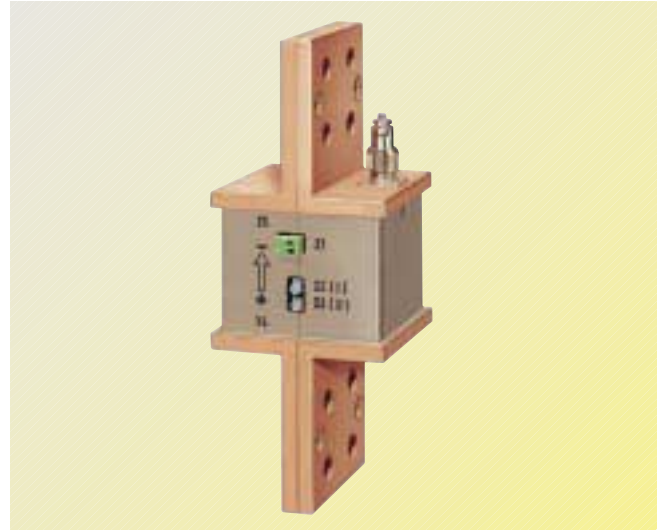

Fig. 2/7
- Highly accurate and stable actual value sensing using the innovative sigma-delta technique for reliable drive converter actual values (refer to Fig. 2/7).